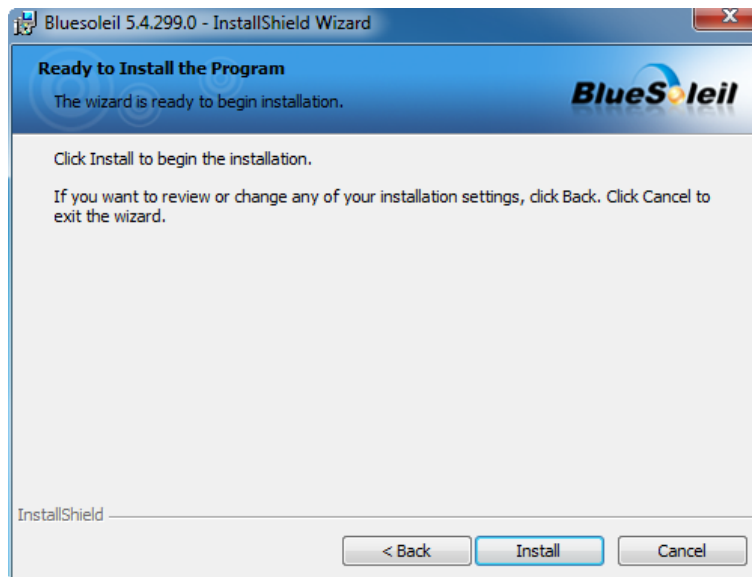

Figure 5-43: Ready to Install the Program
Step 10: Click **INSTALL** to continue (Figure 5-43).